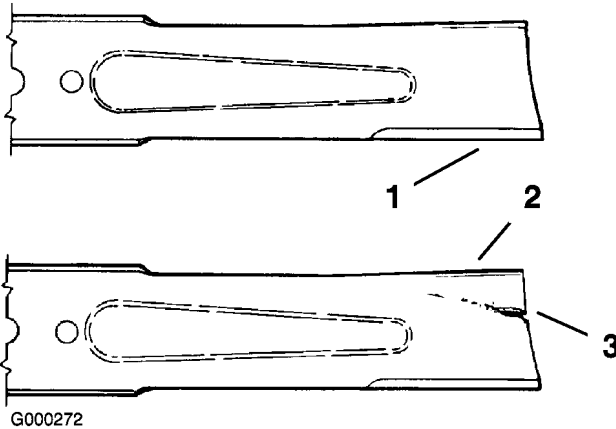

Figure 53
1. Inspect the cutting edges (Figure 53). If the edges are not sharp or have nicks, remove and sharpen the blades. Refer to Sharpening the Blades.
2. Inspect the blades, especially the curved area (Figure 53). If you notice any damage, wear, or a slot forming in this area (item 3 in Figure 53), immediately install a new blade.